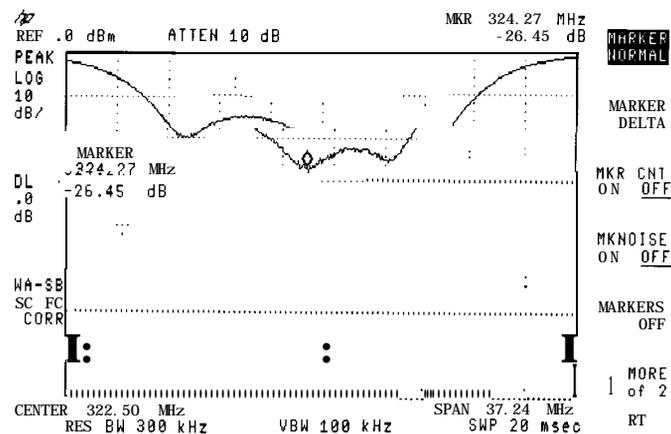

Figure 4-16. Measuring the Return Loss of the Filter
8. Use the marker to read return loss. Press **MKR** and position the marker with the knob to read the return loss at that frequency (see Figure 4-16).